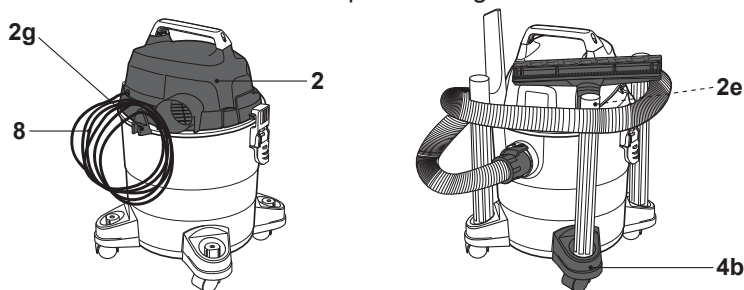

Fig. 25
- > Disconnect the respective attachment (11, 12), hose (9) and extension tube(s) (10) if necessary.
- > To wash out the tank, use clean water instead of detergent. Do not immerse the tank (3) in water.
- > Once dry, we recommend putting the attachments onto the attachment storage (2e, 4b) and storing the power cord (8) on the hook (2g) of the motor unit (2) (Fig. 25).
- > We recommend putting the attachments onto the attachment storage (2e, 4b) and storing the power cord (8) on the hook (2g) of the motor unit (2) (Fig. 25).